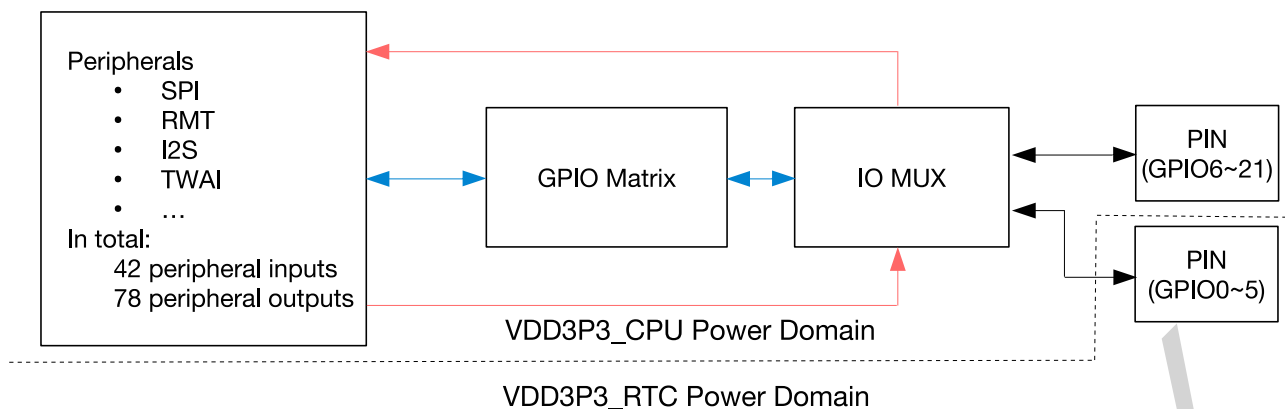

Figure 5-1. Diagram of IO MUX and GPIO Matrix
- Figure 5-1 shows the general work flow of IO MUX and GPIO matrix.